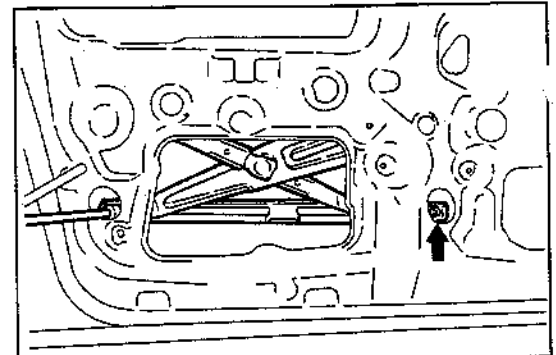

Fig. 9-133
- (1) Install the front door glass subassembly. (See Fig. 9-133.)
- (2) Close the front door glass fully. Then, lower the front door glass 40 mm (1.57 inches).
- (3) First loosen the bolts **A** and then tighten them again.